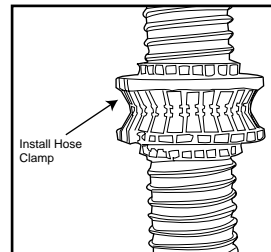

Fig 19
- Install hose stops on each hose and tighten with hose clamps. See Fig. 19.